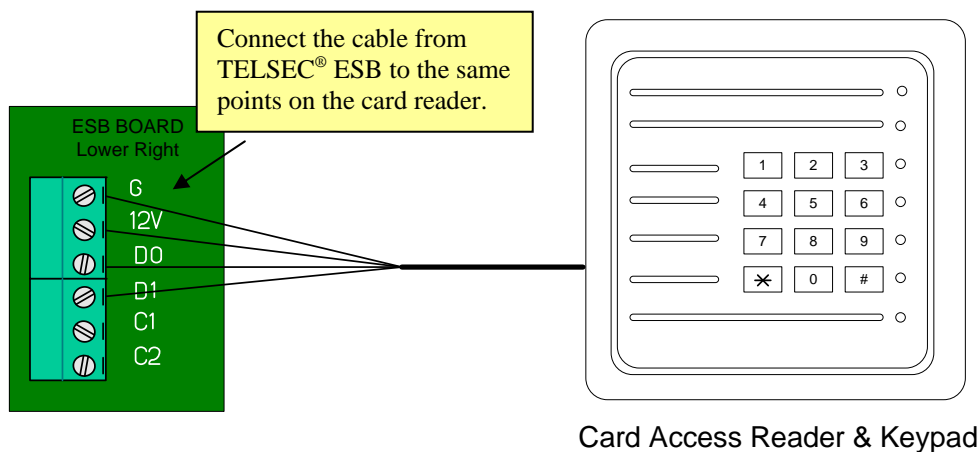

Figure 7: Card Reader Connection Terminal on TELSEC[®] ESB Board
Step 4: Connect D0, D1, GND & 12V from the TELSEC[®] ESB to the same points on each card reader using 4 conductor 20 AWG shield cable (Figure 7).